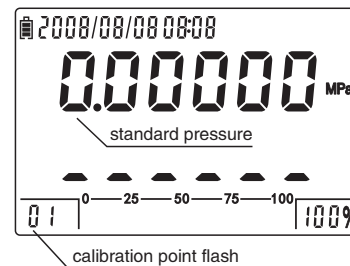
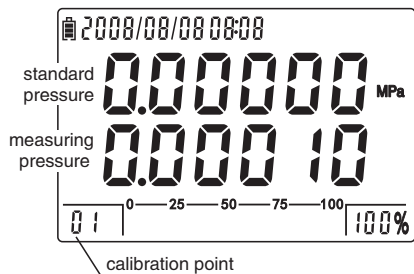
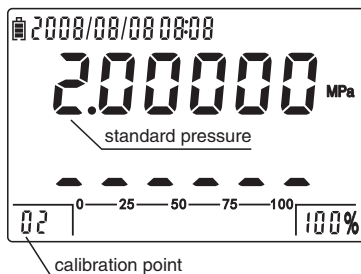
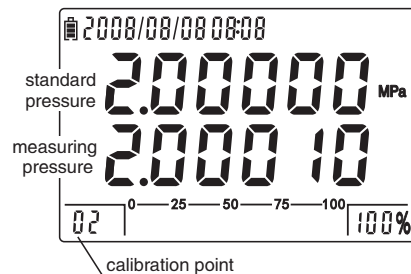

Figure 5-3-1: 1st point entrance
Figure 5-3-2: 1st point calibration
Figure 5-3-3: 2nd point entrance
Figure 5-3-4: 2nd calibration
(1) Press  to enter into passport menu, input the password "2003" and press  to enter into calibration menu.
(2) Select **IP_CAL** and press  to enter into the entrance interface. The **[01]** of left reading area is 1st calibration point, the user can select points by using  . Please press  to start calibration. (as figure 5-3-1)
- (3) The first line flashes to remind the user to input the standard pressure of 1st point. (In this example, it is 0.00000 MPa)
- (4) As figure 5-3-2, screen displays the interface of 1st calibration point. Please supply 0.00000 MPa pressure, and press  to finish the 1st point calibration after it is stable. As figure 5-3-3, switch to the 2nd point calibration interface.
- (5) Under the interface of 2nd calibration point, the first line flashes for new standard pressure. In general, it is the default (In this example, it is 2.00000 MPa), press  for next step.
- (6) As figure 5-3-4, screen displays the 2nd point calibration interface. Please supply 2.00000 MPa pressure and press  to finish the 2nd point calibration after it is stable. The screen switches to the interface as figure 5-3-1 and the calibration is finished.
- (7) Press  to return to the calibration function menu. The calibration is effective if **2P_0** changed to **2P_1**.